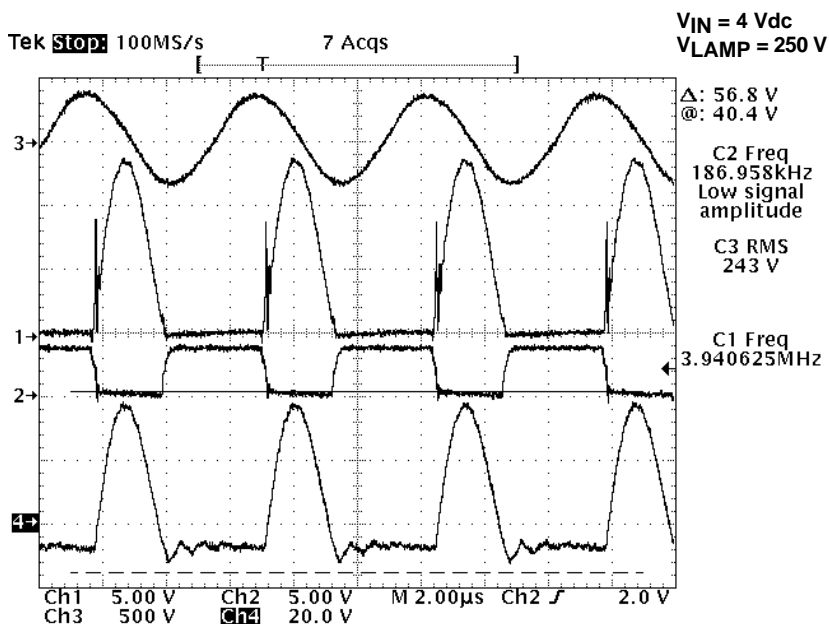

Figure 16. UCC3975 Resonant Flyback Waveforms
For single layer PZT applications requiring additional gain, a resonant flyback topology can be implemented as shown in Figure 16. In the resonant flyback application, a single N-channel switch is driven at 50% duty cycle producing a half sinusoid at the drain (see Figure 16: trace 1). The magnetic transformer provides a stepped up voltage to the PZT primary (trace 4). The resulting lamp voltage at the PZT secondary, which is approximately 250 V in this case, is sinusoidal resulting from the high Q of the ceramic transformer (trace 3). When compared to a high-voltage magnetic CCFL transformer, the magnetic step-up transformer is small and low profile because of the reduced turns ratio (3.5:1) and voltage rating. To ensure zero-voltage switching, as in the case of the push-pull converter, equation (16) must be validated. The L-C relationship can be analyzed on either the primary or secondary side of the magnetic transformer. If viewed from the primary, PZT capacitance is reflected by the turns ratio.